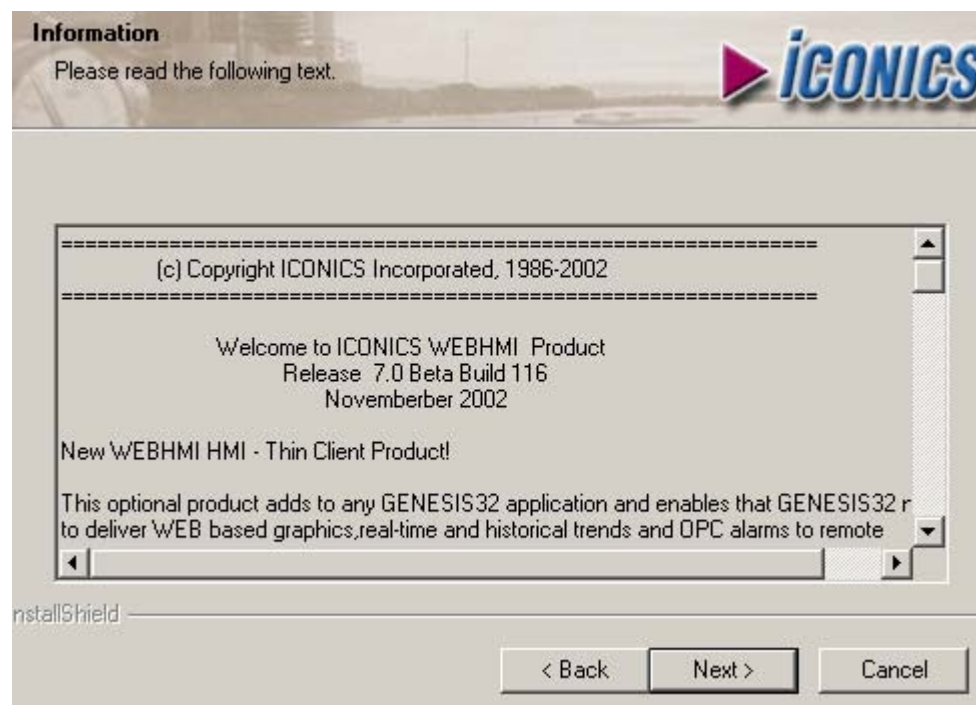

Figure 2.10. Copyright Notice
4. The **ICONICS WebHMI Copyright** dialog box will appear, as shown in **Figure 2.10**. After reviewing the copyright information, click **Next** to continue.